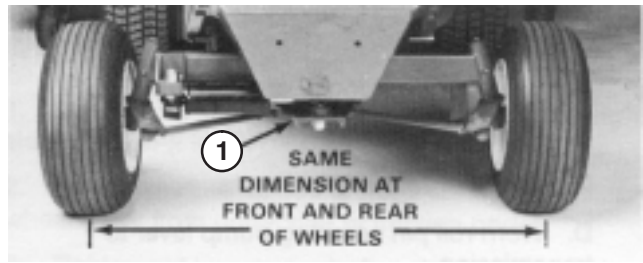

Figure 43
2. Loosen the jam nuts on both tie rods. Adjust both tie rods until center-to-center distance at front and back of rear wheels is the same (Fig. 43).